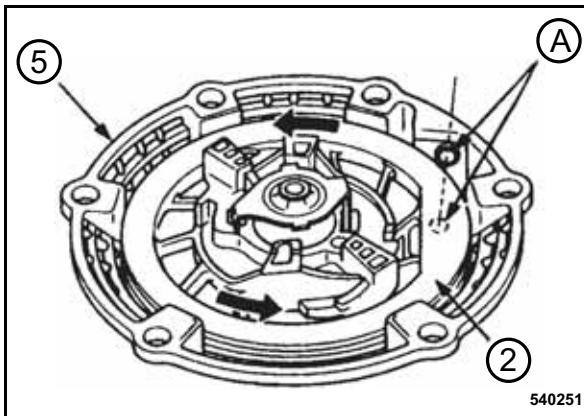

Fig. 70
- Before assembling the rope turn the coil (2) (Fig. 70) 5 revolutions in anti-clockwise direction and align the rope openings on coil and housing (5) to match (A).